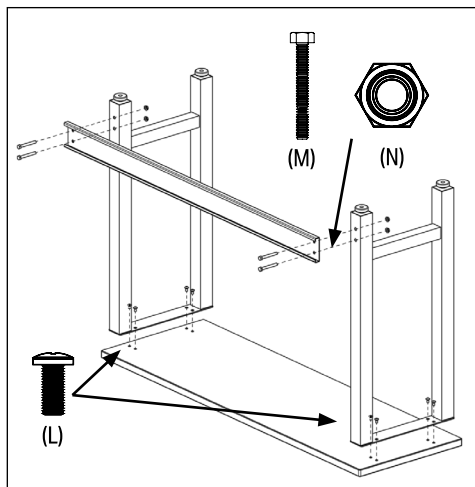

Fig. 7
7.6 Assembling the Workbench (3) (Fig.7)